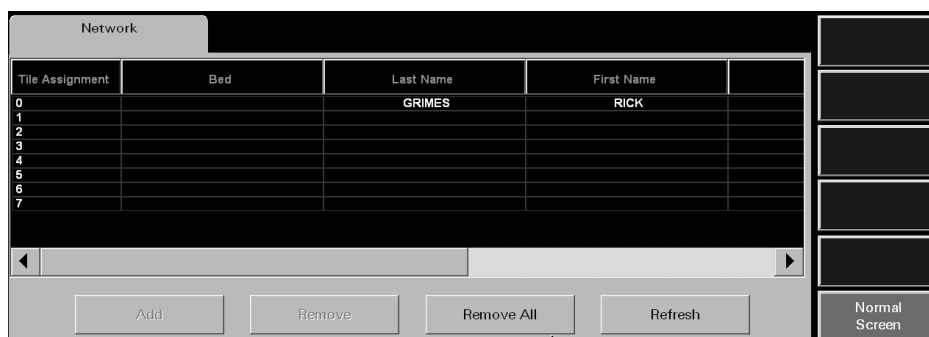

FIGURE 14-1 Network Tab
The **Network** tab (shown in FIGURE 14-1) is where the accessible patient tiles currently monitored on the C-LAN are displayed. These patient tiles may be selected for viewing at the ViewStation or the WorkStation. The **Network** tab can only be seen from a ViewStation or a WorkStation and is not available from the host central station. The ViewStation and WorkStation are independent of each other. For example, if a patient is added to a patient tile at a ViewStation, the WorkStation will not be affected unless the same patient is added to a patient tile at the WorkStation.
- From the ViewStation or WorkStation menu bar (shown in FIGURE 2-8 on page 2-11), select the **Network** button. The **Network** tab is displayed (shown in FIGURE 14-1).